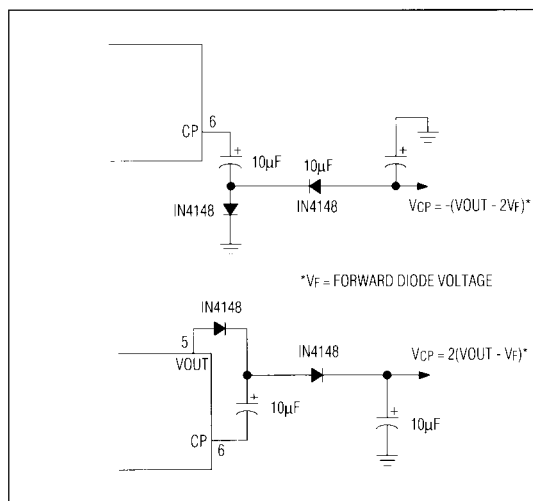

Figure 3. Using the Charge Pump (CP) output as a voltage inverter and/or doubler. Both circuits can be used together.
The Charge Pump (CP) output is a low impedance buffer which swings from ground to VOUT at the oscillator frequency. Two external capacitors and diodes can be connected, as shown in Figure 3, to generate a negative output voltage of $-(V_{OUT} - 1.2V)$ or a positive output of $2(V_{OUT} - 1.2V)$. 1.2V is the forward drop of 2 silicon diodes. Both circuits can be used at once if desired. With 10 μ F capacitors, the output impedance of V_{CP} is about 30 Ω . If space is critical, the capacitors can be reduced, but with a slight increase in output impedance and V_{CP} output ripple.